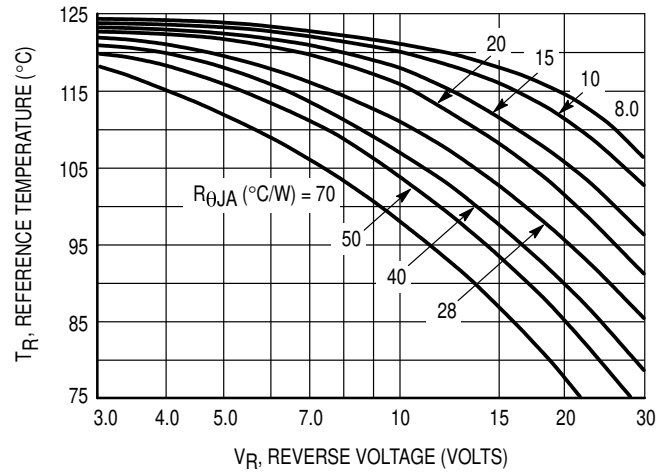

Figure 2. Maximum Reference Temperature
Step 2. Find  $T_R$  from Figure 2. Read  $T_R = 108^\circ\text{C}$